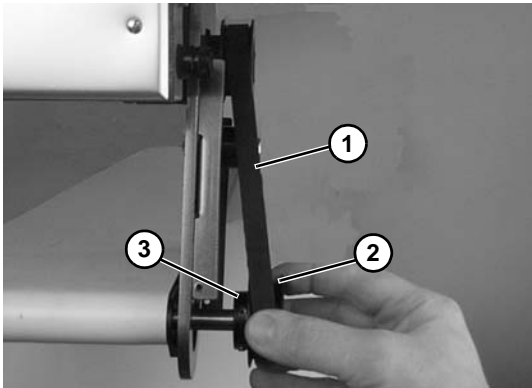

Figure 20
3. Remove timing belt (Figure 20, item 1).
If timing belt does not slide over driven pulley flange (Figure 20, item 2), loosen driven pulley set screws (Figure 20, item 3) and remove pulley with belt. For re-installation, see steps 6 through 9 on page 9.